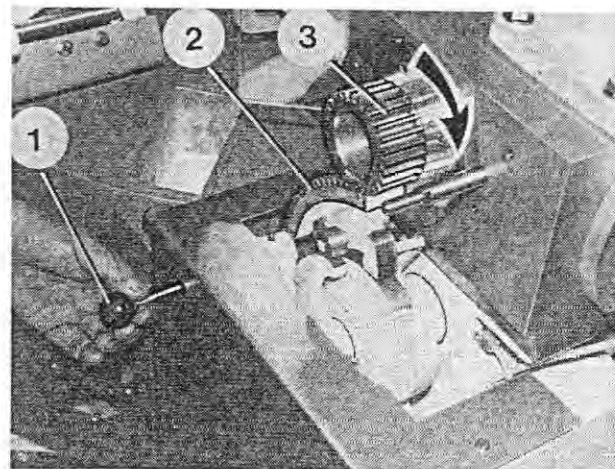

Fig. 206
11. Pull out the index pin (Figure 206/1) and turn the rotary cylinder on the other side of the dosing case in the direction of the arrow until the toothed wheel (Figure 206/3) has released the toothed segment (Figure 206/2).